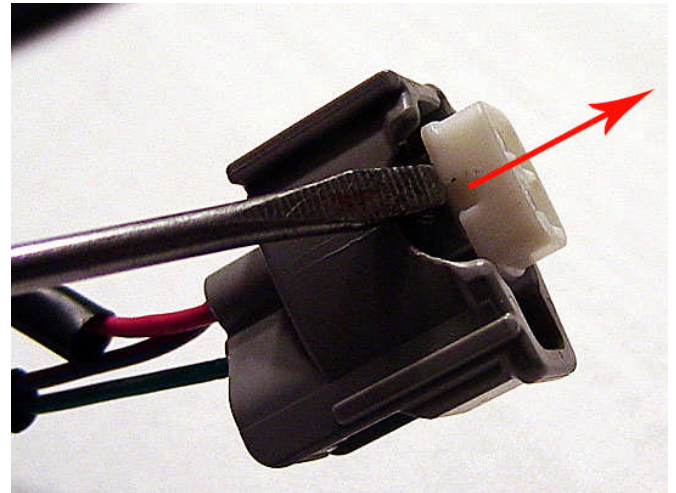
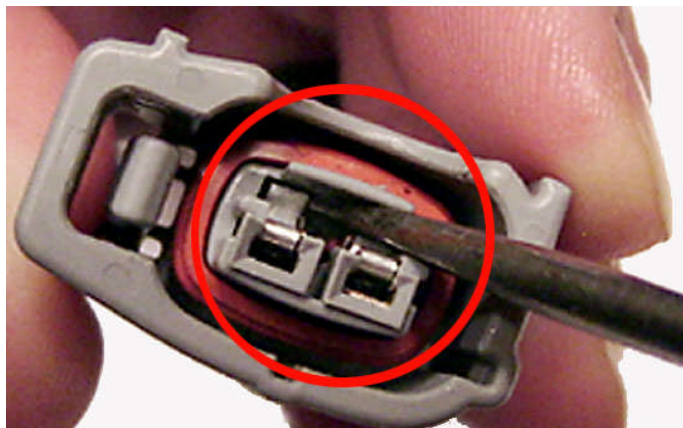
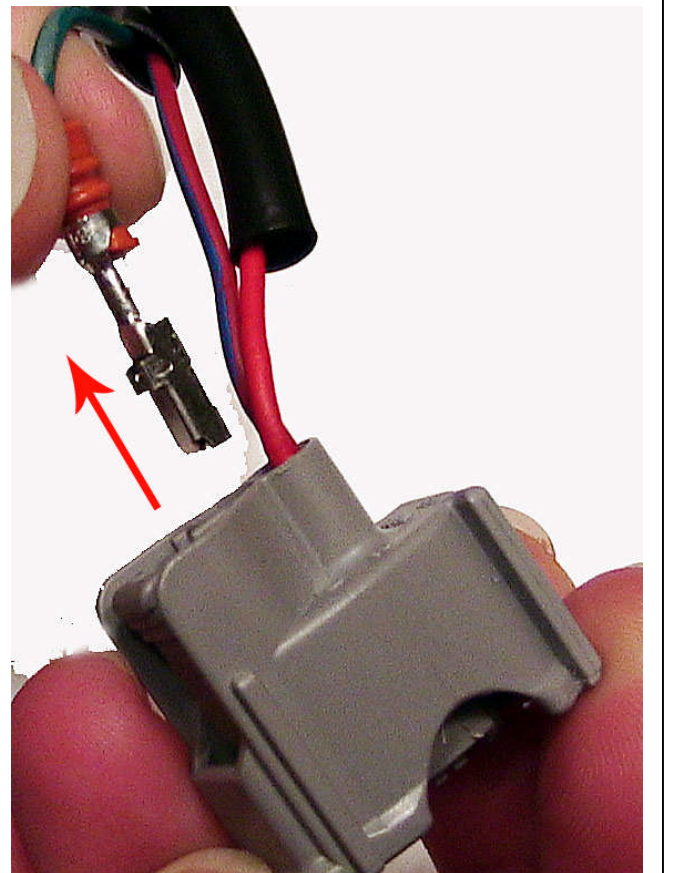

Fig. 2
Fig. 3
Fig. 4
2. You will need to disassemble the OEM injector connector, by removing the pins from the connector housing. First pry up the white center piece (Fig 2) with a small screwdriver or pick. Then release the pin catch, also with a small screwdriver(Fig 3) by lifting up on the catch. Once the catch is up pull on the corresponding wire and remove it from the housing. (Fig 4) Repeat on the 2nd wire.